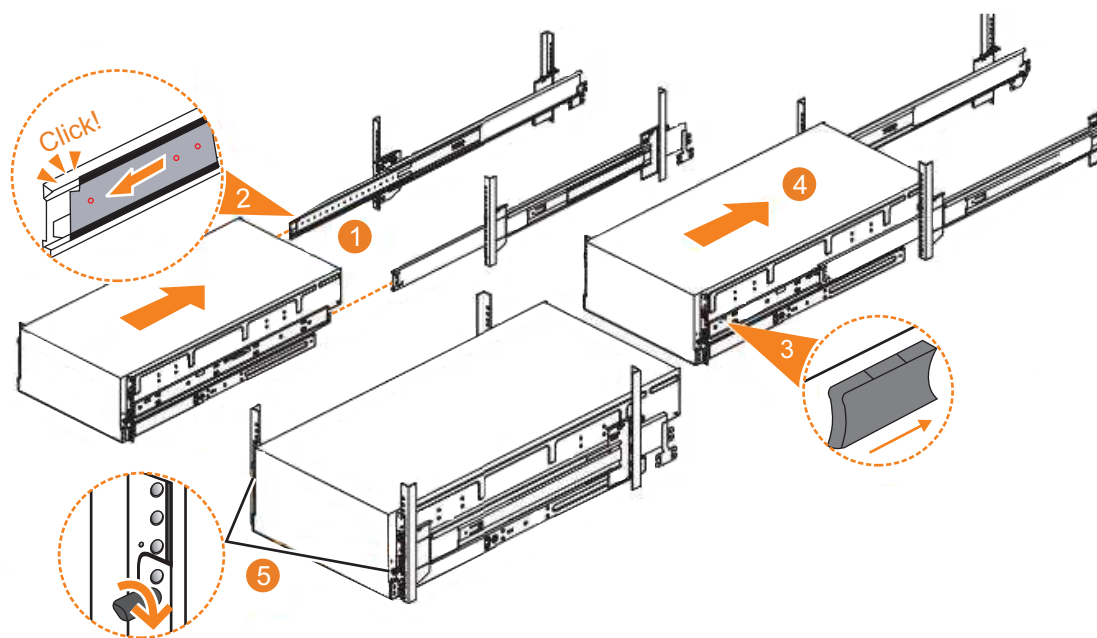

Figure 41. Replacing the 2076-92F enclosure in the rack
1. Fully extend the left and right drawer sections from the rack to lock the rails in the extended position (**1** in Figure 41 on page 51).
2. Ensure that the ball bearing retainer clicks into place inside the front of the left and right drawer sections (**2** in Figure 41).
6. Locate the left and right blue release tabs near the front of the enclosure. Press both release tabs forward to unlock the drawer mechanism (**3** in Figure 41).
7. Push the enclosure firmly into the rack (**4** in Figure 41).
8. Tighten the locking thumb screws (**5** in Figure 41) to secure the enclosure in the rack.